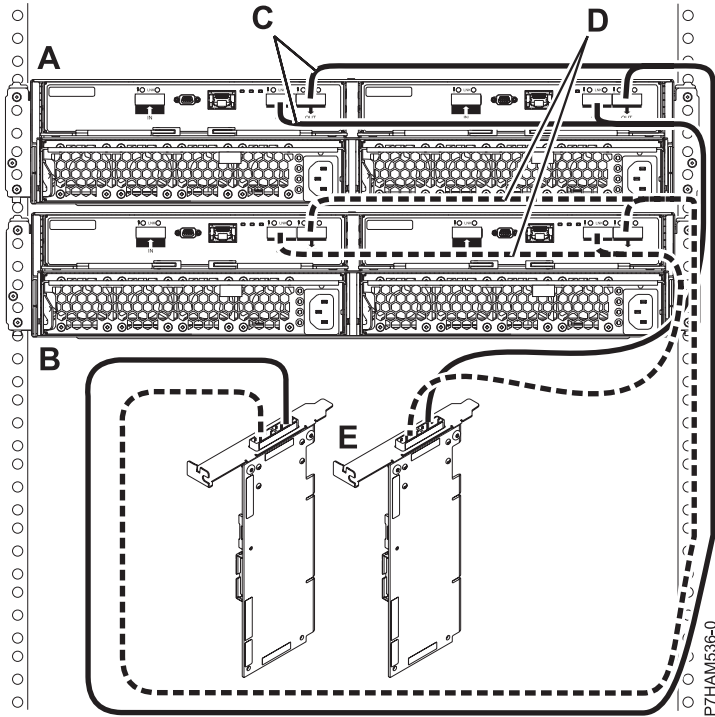

Figure 15. Mode 1 connection of two 5887 disk drive enclosures by using YO cables to a SAS adapter pair
16. Perform the mode 1 connection of two enclosures (A and B) by using YO cables (C and D) to a SAS adapter pair (E). See Figure 15 on page 16.